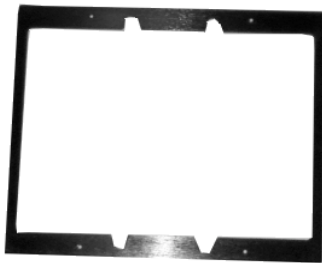

Figure 1: Support Plate
Step 3. Place the support plate into the hole in the table. The support plate is the square flat plate that can fit into the hole in the table (See Figure 1).